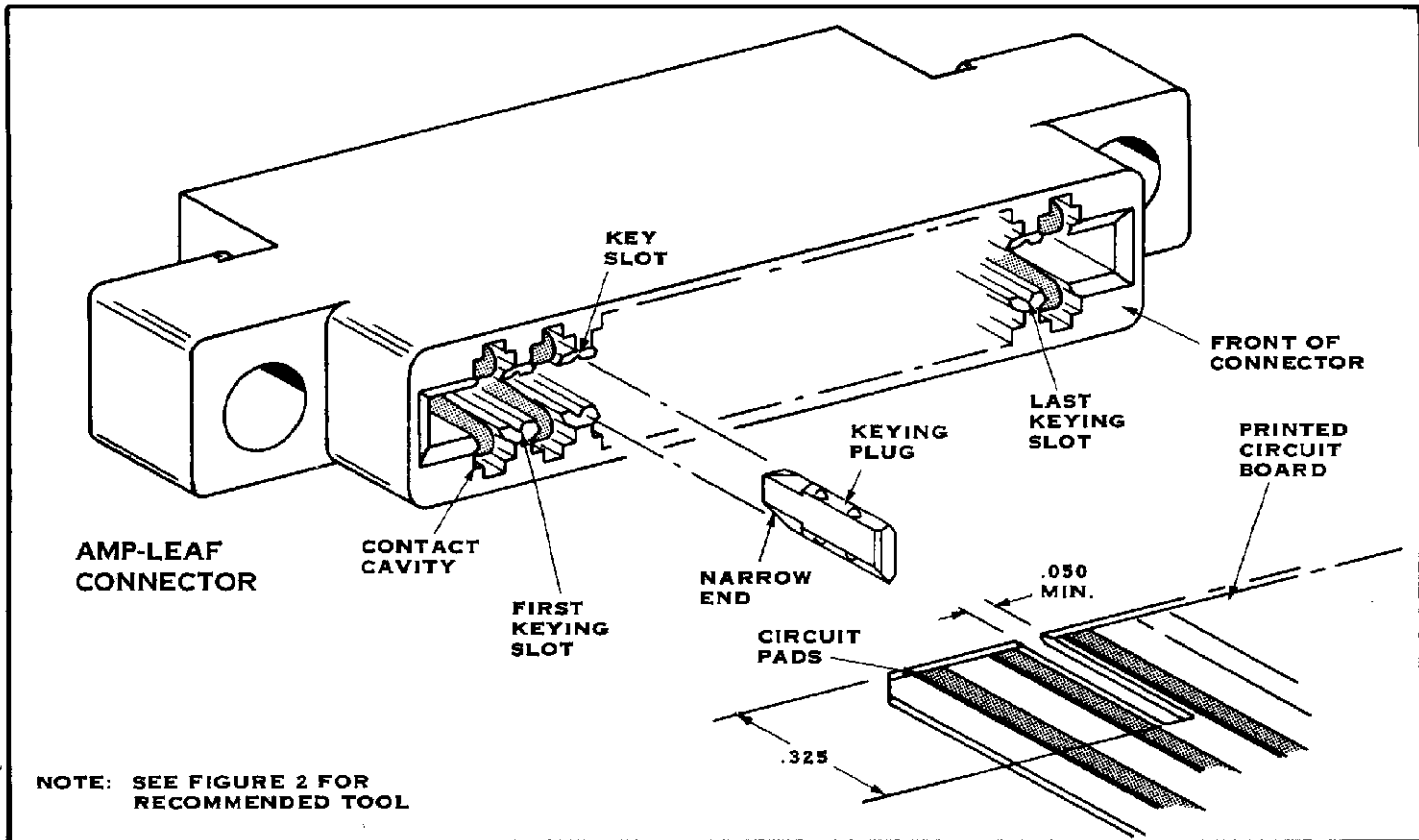

FIGURE 3
2. Align the Narrow End of the Keying Plug with the Inter-Contact Keying Slot which is located between the contact cavities as shown in Figure 3.
4. Cut a slot in the Printed Circuit Board according to the dimensions shown in Figure 3. Make sure the Slot is centered between the applicable Circuit Pads.